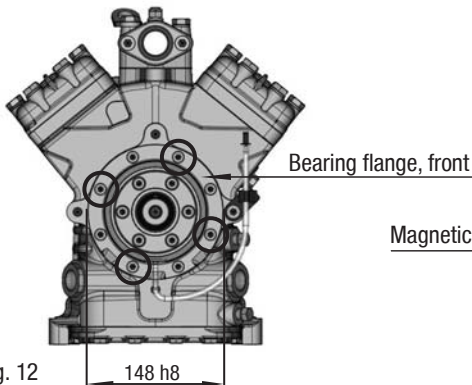

Fig. 12
- To absorb the magnetic field of the electromagnetic clutch, the front bearing flange has a snug fit $\varnothing 148 \text{ h8}$ (see Fig. 12).
- To connect the magnetic field, loosen the 4 cheese head screws M8 on the bearing flange (see Fig. 12).